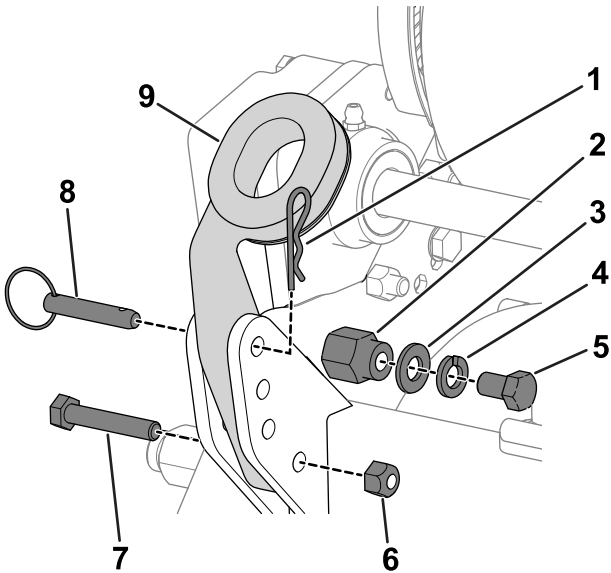

Figure 3
1. Remove the bolts (5/16 inch), locknuts, ring pins, and hairpin cotters that secure the bottom of the handle arms to each side of the machine (Figure 3).
6. Use the bolts (5/16 inch), locknuts, hairpin cotters, and ring pins that you previously removed to secure the handle arms to the rear of the frame (Figure 3).
2. Remove the bolts (3/8 inch), washers, and lock washers from the mounting pins on each side of the machine (Figure 3).
3. Insert the handle ends through the holes in the handle arms and align the holes with the mounting pins (Figure 3).